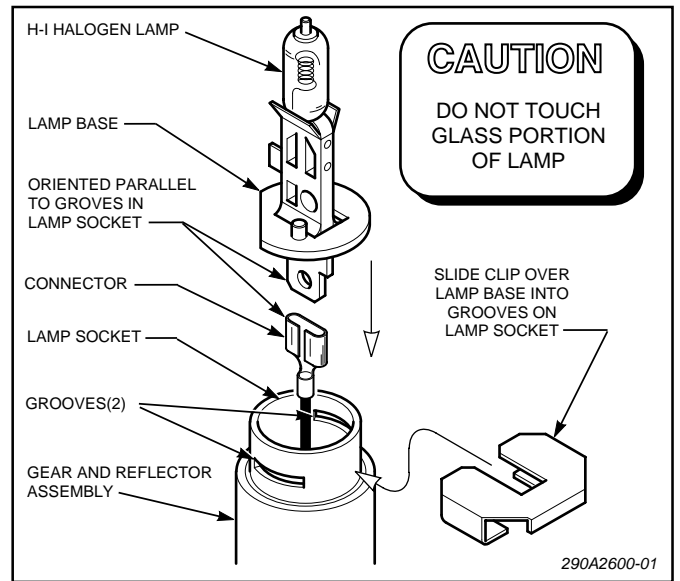

Figure 3.
2. See figure 3. Note the lamp's orientation and replace the lamp (H-1 halogen, Part No. 8440A265A) with the straight edge of the lamp's base toward the reflector.